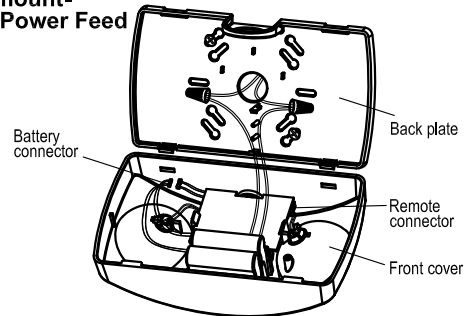

Fig 2
## Wall Mount-Back Power Feed (see Fig 2)
7. Connect battery connector.(see Fig 2).
## Connecting Remote heads (see Fig 2)